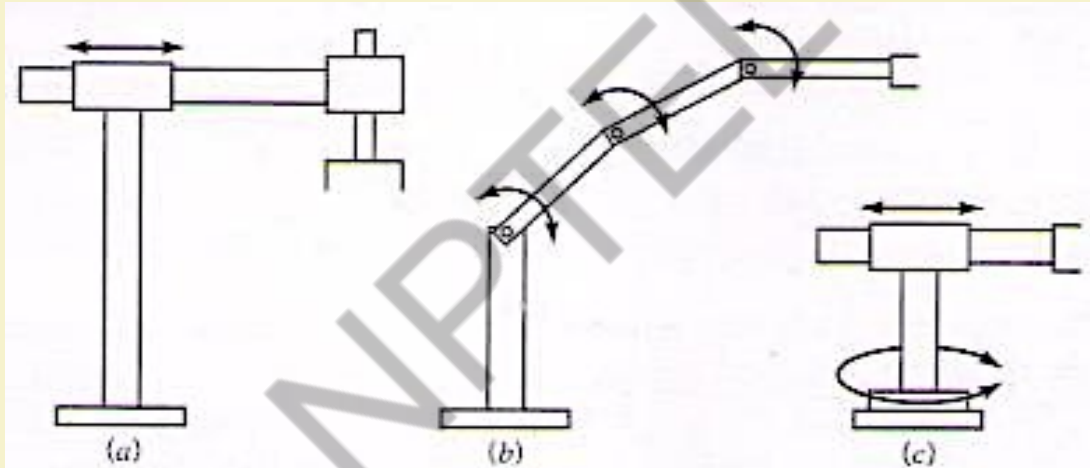

FIGURE 8.4 Robot configurations for Example 8.2: (a) LL robot; (b) RRR robot; (c) TL robot.
- Designate the robot configuration shown in Figure 8.4. using the joint notation scheme.